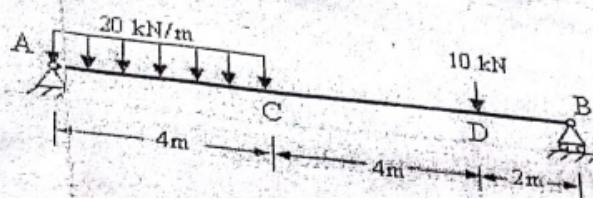

Figure.2
- (b) Draw the shear-force and bending-moment diagrams for the simply supported beam as shown in figure.2.